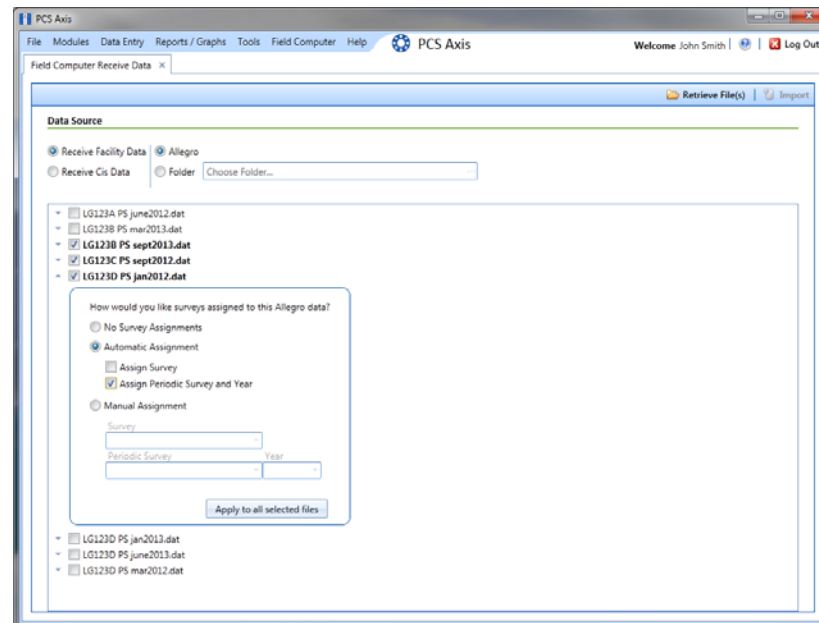

Figure 12-18. Field Computer Receive Data
- 5 Choose survey files you want to transfer from the Allegro. Click the check box for one or more survey files in the list of files available for selection (Figure 12-18, page 493).